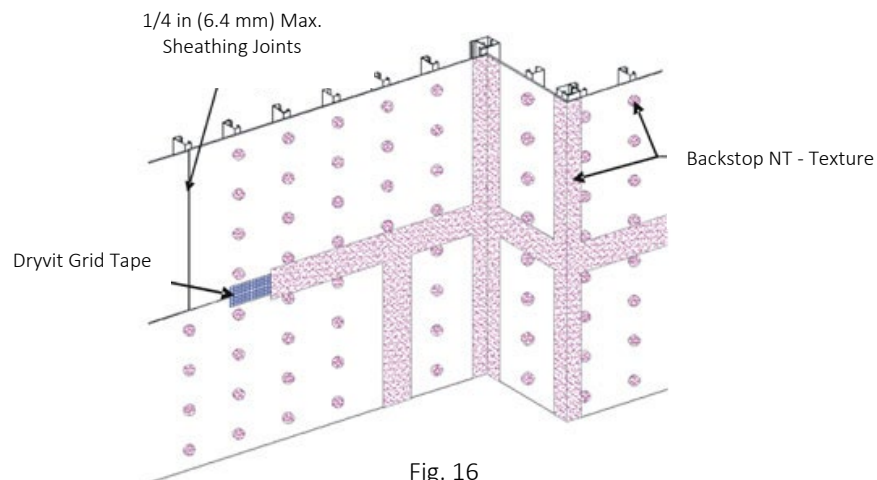

Fig. 16
- a) Apply Dryvit Grid Tape as described in Section VI.B.5.a above. Mix the Backstop NT - Texture material as described in Section III.B.2. Using a stainless steel trowel or spatula, apply a layer of Backstop NT - Texture over the Dryvit Grid Tape and spot all fastener heads – Figure 16.